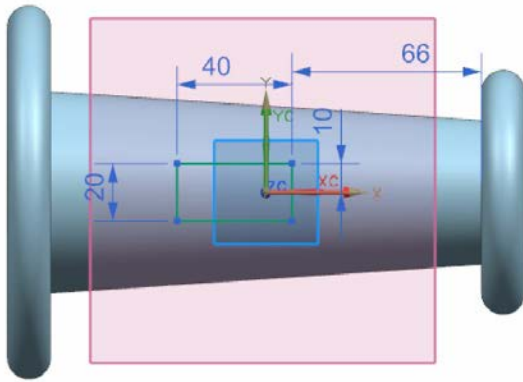

Figure 10-99 The sketch drawn for creating the extruded feature
- Create the second feature, which is an extruded surface, refer to Figures 10-99 and 10-100.
2. Create the sketch for the second feature by selecting the offset plane as the sketching plane, as shown in Figure 10-99.